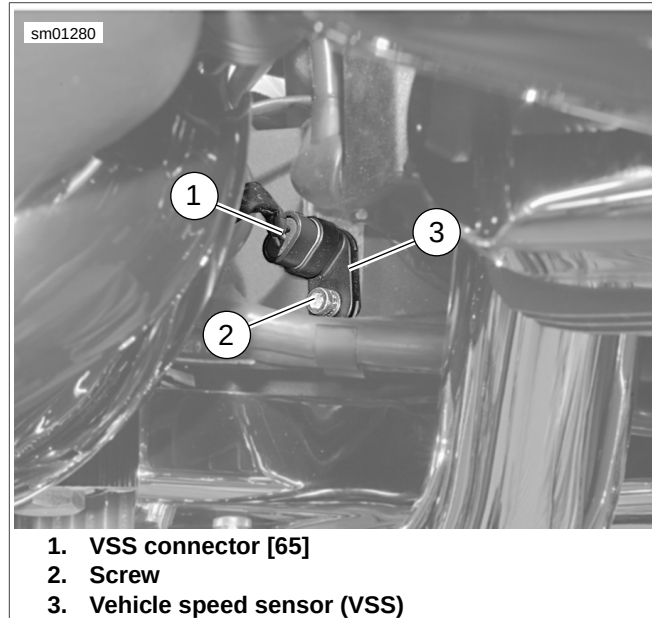

Figure 6-104. Vehicle Speed Sensor: All Models (XL Shown)
2. See Figure 6-104. Disconnect VSS harness connector [65A] (1) from VSS (3) mounted on rear of engine case below starter motor assembly.
3. Remove screw (2). Carefully remove VSS and o-ring from engine crankcase.
1. See Figure 6-104. Carefully install VSS (3) and o-ring into engine crankcase with screw (2). Tighten to 80-100 in-lbs (9.0-11.3 Nm).
2. Attach VSS harness connector [65A] (1) to VSS.